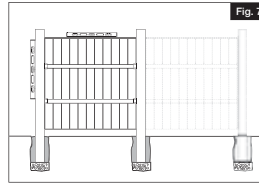

Fig. 7
- Level and plumb post and panel (Fig. 7).